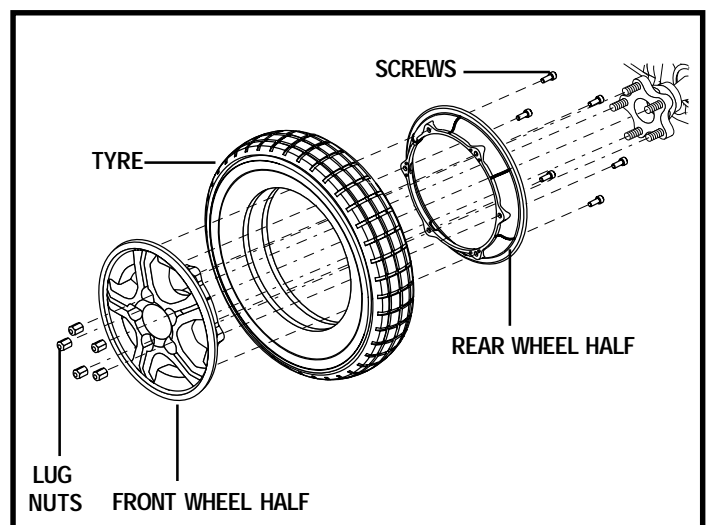

Figure 32. Quantum 6000 Drive Wheel
4. Remove the five (5) lug nuts from the wheel hub.
6. Remove the screws that fasten the two wheel halves together. See figure 32.
10. Reinstall the five (5) lug nuts onto the wheel hub and tighten.